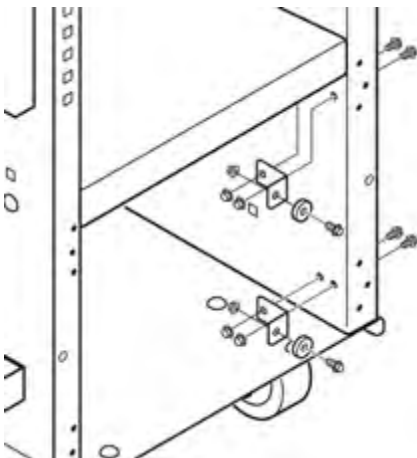

Figure 4-15
17. Assemble Magnet (item #28) to Door Stop (item #29) using a M4 x 12 Cross Recessed Head Screw and M4 Hex Flange Nut (item #30) as shown in Figure 4-15. Repeat this for the second Magnet/Door Stop assembly.
18. Using four M4 x 12 Hex Flange Bolts (item #26) and four M4 Hex Nuts (item #30), attach both Magnet/Door Stop assemblies to the cart assembly Side Panel as shown in Figure 4-15.